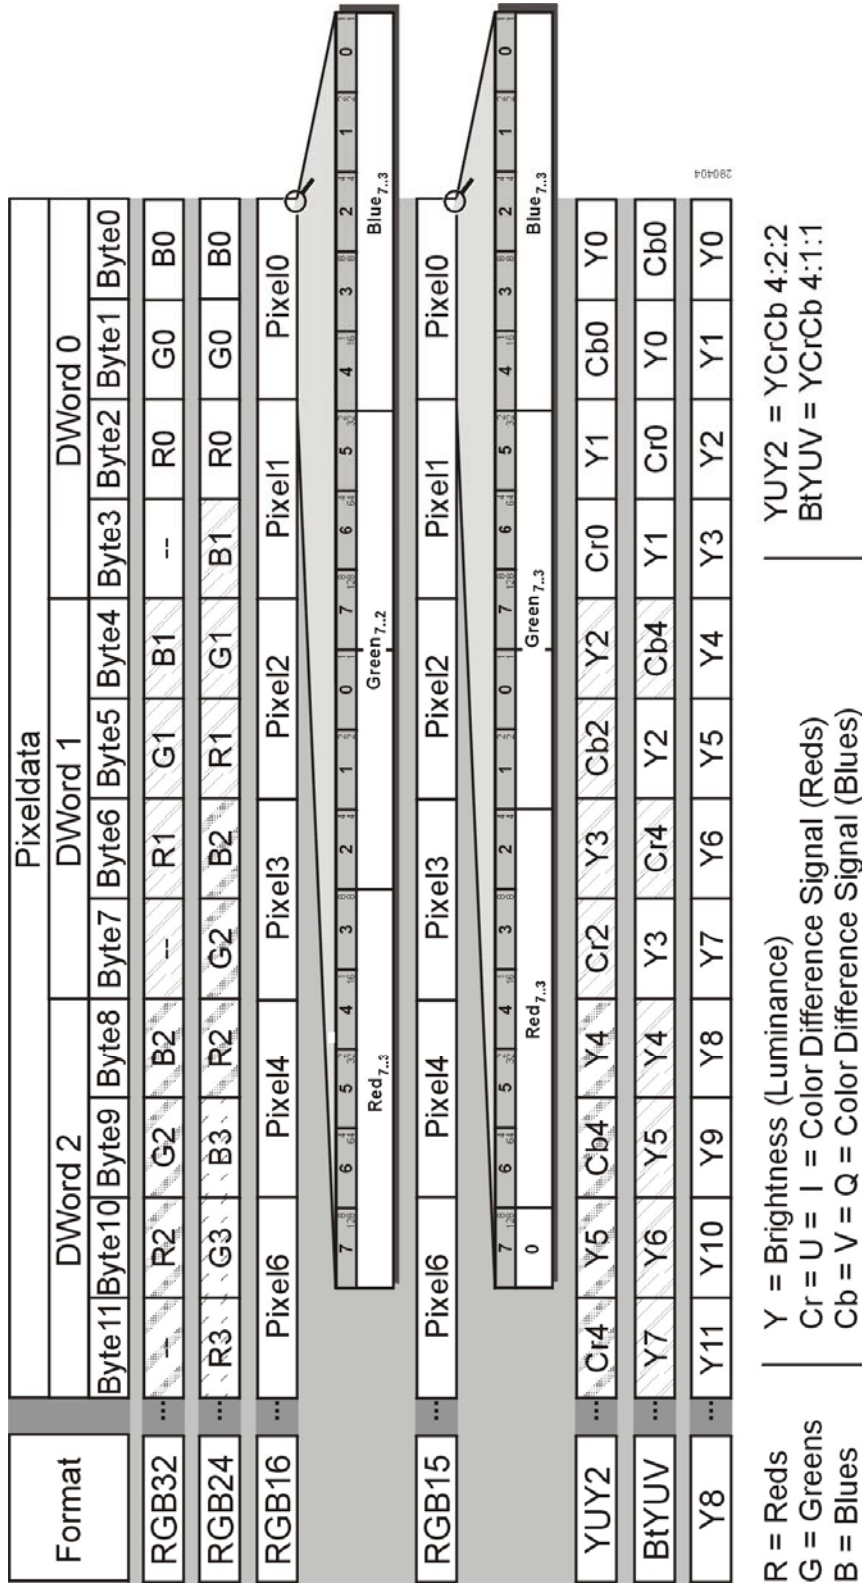

Figure 59: Color Format of the pciGrabber-4plus/express
The format is determined by the application. In general, three formats can be distinguished, which again are subdivided in different formats. *Figure 59* shows how pixels can be stored in the memory for different formats.
- *RGB32*: 32-bit, a double word per pixel is used to store RGB color format. The lowest byte of each double word contains the information for the blue color (8-bit width), the second byte the green and the third byte the red color information. The highest byte contains no information and is used only to obtain a double word format for one pixel: After each double word a new pixel begins (see *Figure 59* where related information have same hatching).
- *RGB16* has a reduced resolution of the color. This format requires five bit for the blue and red channel, and the green channel has 6-bits. The color depth is 65.536 ($2^5 \cdot 2^5 \cdot 2^6 = 65536$). One pixel is represented by 16 bits = 1 word. In *Figure 59* the partitioning into three color channels of the word is depicted. The color information is arranged „left justified“. This means the lower bits are omitted, so that the color depth is reduced. The color depth of the green channel is twice of each of the two other channels.
- *RGB15*: Corresponds to the RGB16-system, except that all color channels have the same color depth (each 5 bit = 32 levels). Therefore we yield 32.818 colors. Altogether only 15 bits are necessary, so that the upper bit of a word is a stuffing bit and has the value 0 (see *Figure 59*).
- *BtYUV* : corresponds to YCrCb 4:1:1. Four pixels share one color information. The arrangement of the information in the memory is shown in *Figure 59*. Three double words are logically combined to one unit and contain the information for eight pixels. This is the value for the brightness for each pixel (Y0..Y7) and the color information of the first (Cb0/Cr0) and fifth pixel (Cb4/Cr4).